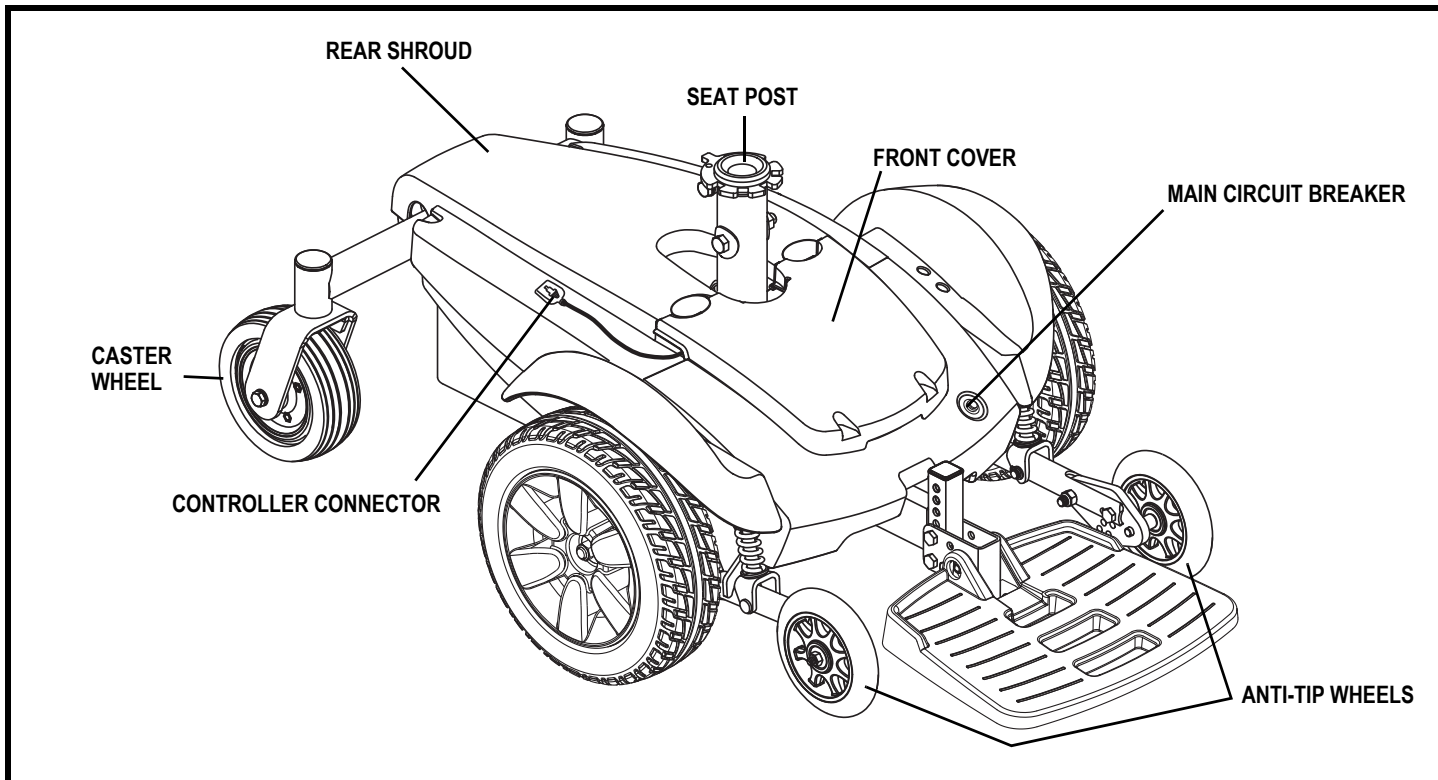

Figure 6. The Jazzy Select Power Base
4. Plug the controller harness into the connector on the power base. See figure 6 or 7.